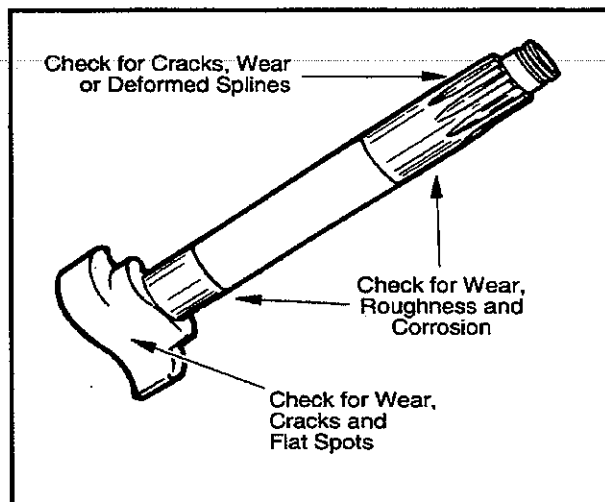

Figure 32—Check Spline
5. Inspect camshaft. (See Figure 32—Check Spline.)